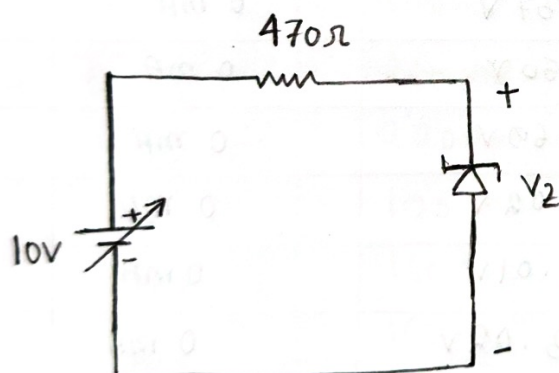

Figure 3.3: Reverse Biased Zener characteristic
1. Connect the circuit as shown in the figure 3.3